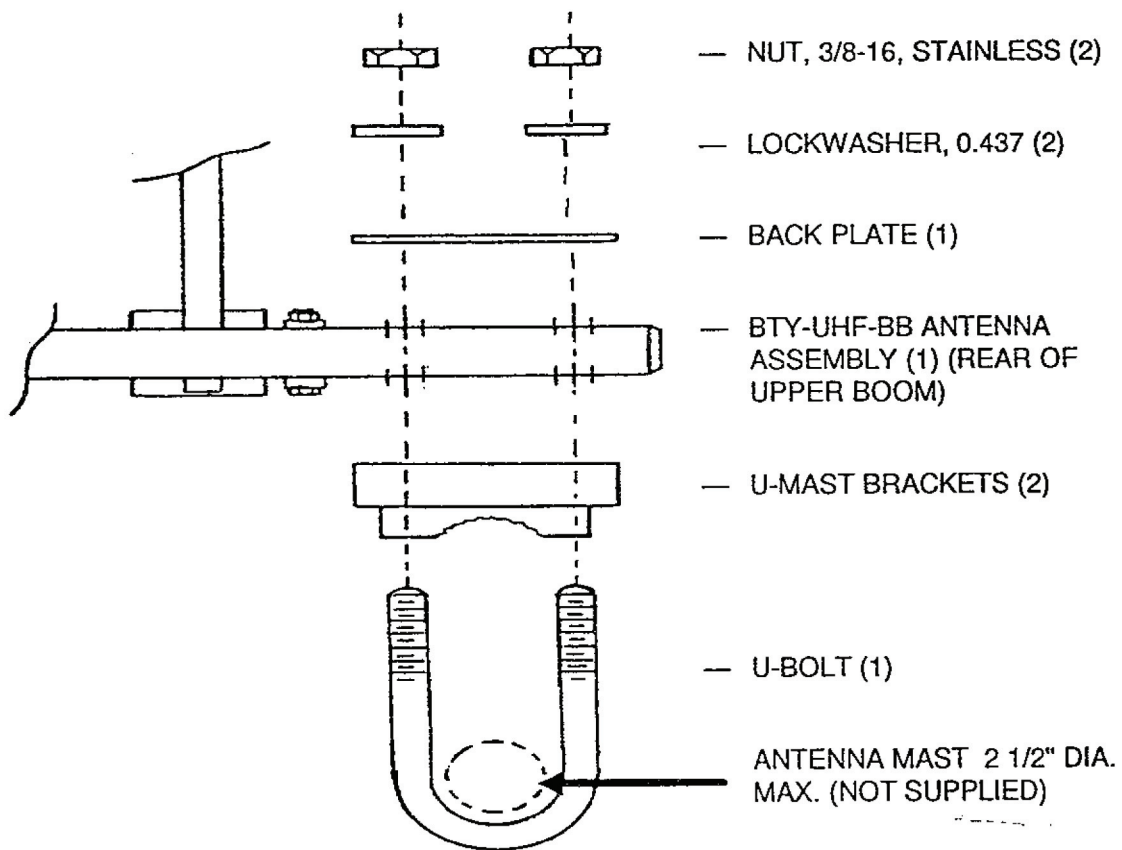

FIG. 1
1. Mount the antenna on the mast ("F" connector down). Use the hardware contained in Bag #1 (U Bolt, Back Plate, etc.) as shown in Fig. 1. The antenna can be attached on either the right or the left side of the mast, but the U Bolt should be inserted through the upper boom.